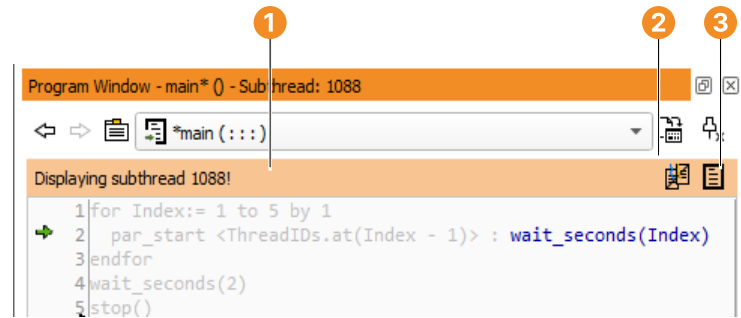

Figure 8.5: Selected subthread in the program window.
- ① Notification line
- ② Thread view window
- ③ Switch back to main thread
Single-stepping over a program line containing a `par_start` will initialize the corresponding thread without actually starting it. To debug a specific thread, press `(F7)` when the PC is on the corresponding `par_start` line. This will automatically make the new subthread the selected thread. If the PC is already past the invocation line, first select the thread in the thread view window. This will automatically display the correct procedure in the program window, with the PC on the first line if the thread was started by a procedure call. For threads started by an operator call like in the example above, the PC will be located on the corresponding call, and the rest of the program will be grayed out, see figure 8.5. The notification line ① in the program window shows the thread ID of the selected subthread, and allows fast access to the thread view window ②. Clicking ③ switches back to the main thread.